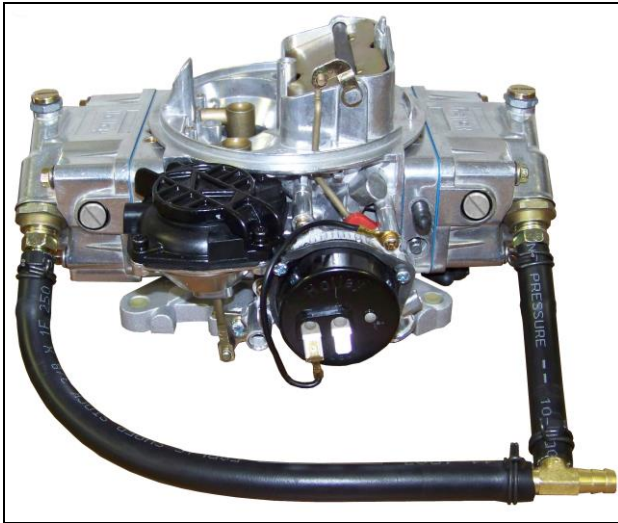

Figure 7
9. Assemble the fuel line assembly as shown in Figure 7.